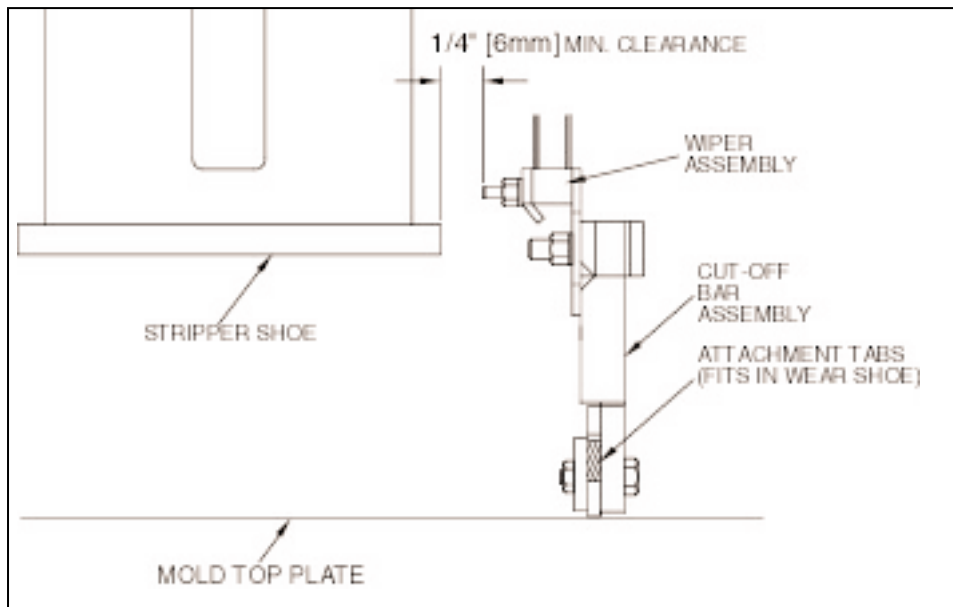

Figure 5.32 FEEDBOX ADJUSTMENT.
- 5.8.10 Put in agitator grid and cut-off bar, and check feedbox alignment. There should be a minimum clearance of 1/4" [6mm] between the wiper assembly and the stripper shoe as shown in figure 5.32.